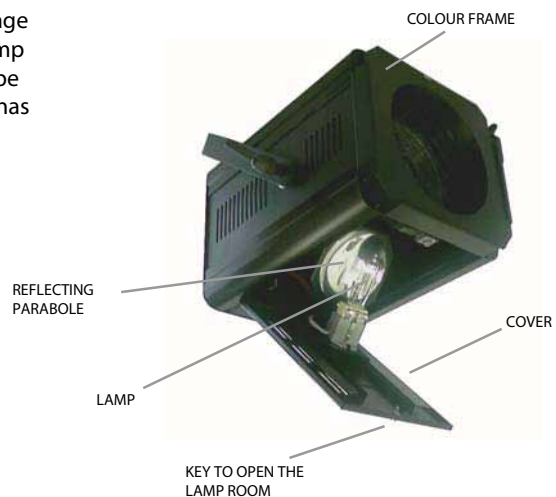

fig. 5
- 4) Fit the new Lamp in its socket not forcing too much (fig. 5).
- 2) Periodically clean the lens and the reflecting parabole (fig. 5) using antistatic cloths and products.